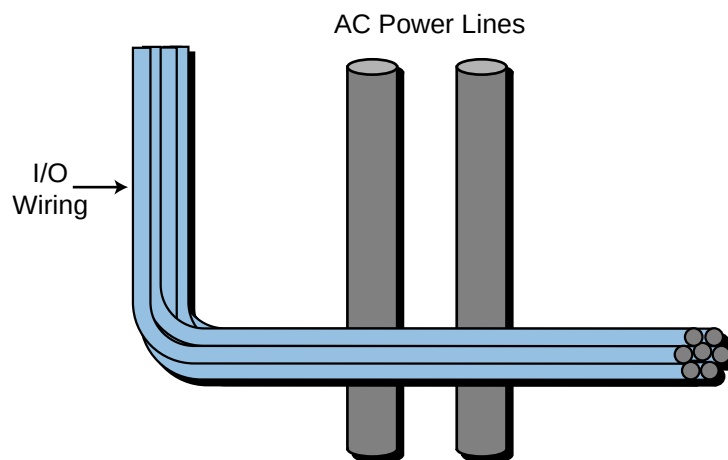
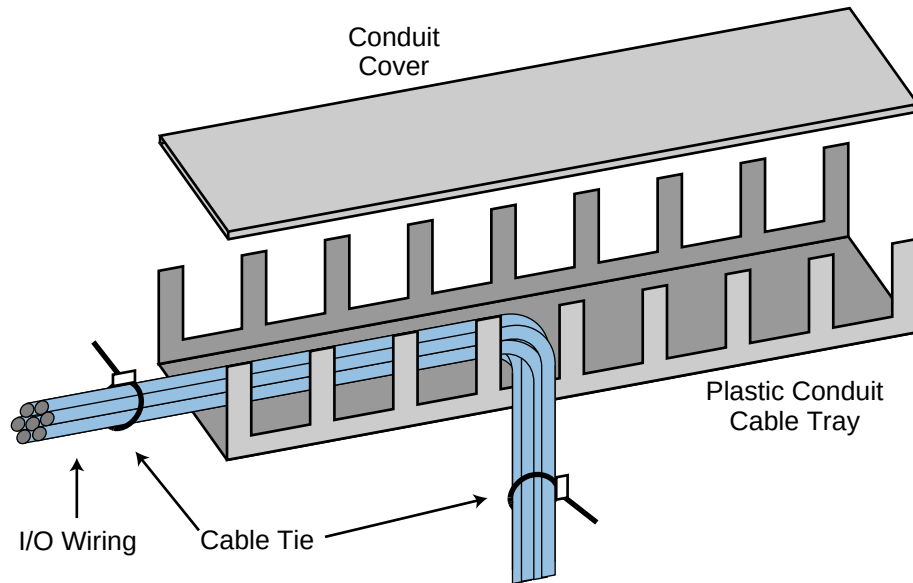

Figure 4. I/O wiring must cross AC power lines at a right angle.
Figure 5. I/O wiring from a conduit.
- If I/O wiring must cross AC power lines, it should do so only at right angles (see Figure 4). This routing practice minimizes the possibility of electrical noise pickup. I/O wiring coming from the conduits should also be at right angles (see Figure 5).